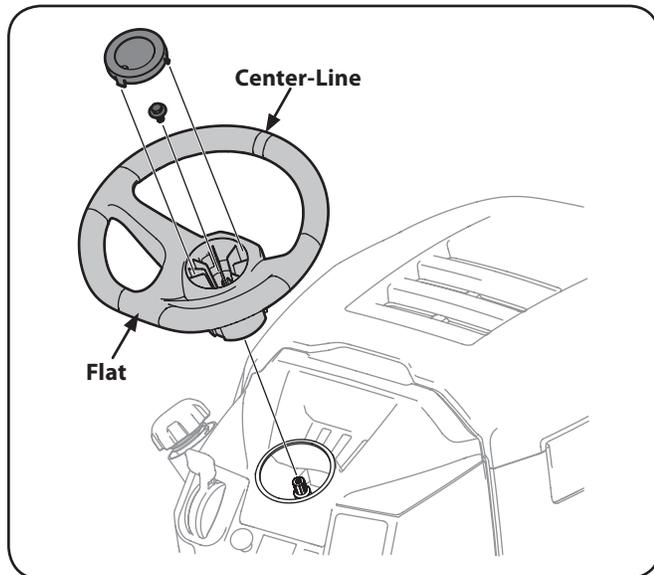

Figure 3-3
1. With the wheels of the tractor pointing straight forward, align the steering wheel by using the center-line on the front of the steering wheel pointing straight ahead and the flat section of the steering wheel facing toward the seat, place the steering wheel over the steering shaft. See Figure 3-3.